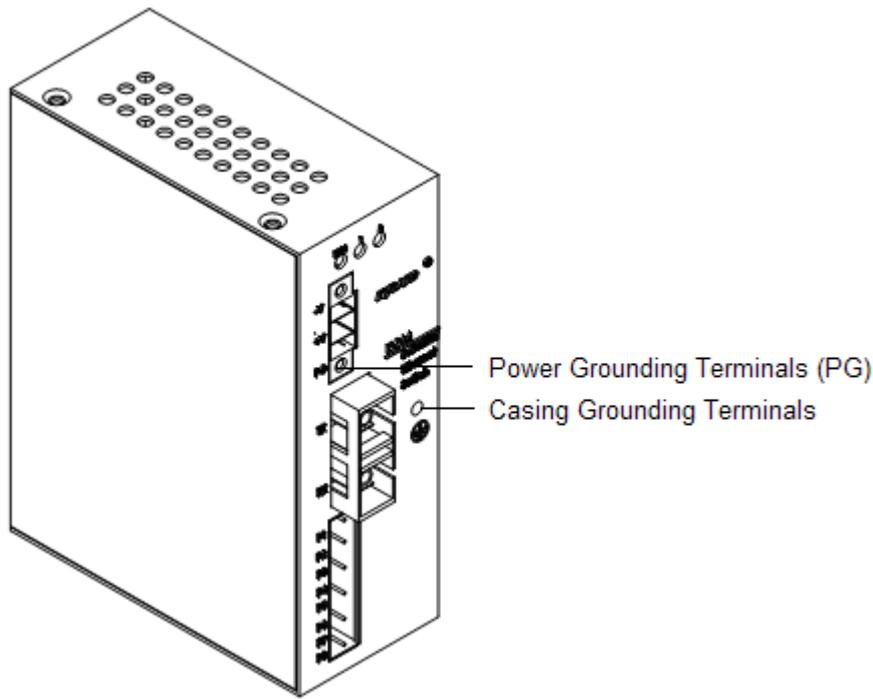

Figure 7: Device grounding
The device grounding: please ground the Power grounding terminal (PG) and the Casing grounding terminal, showing as Figure 7.